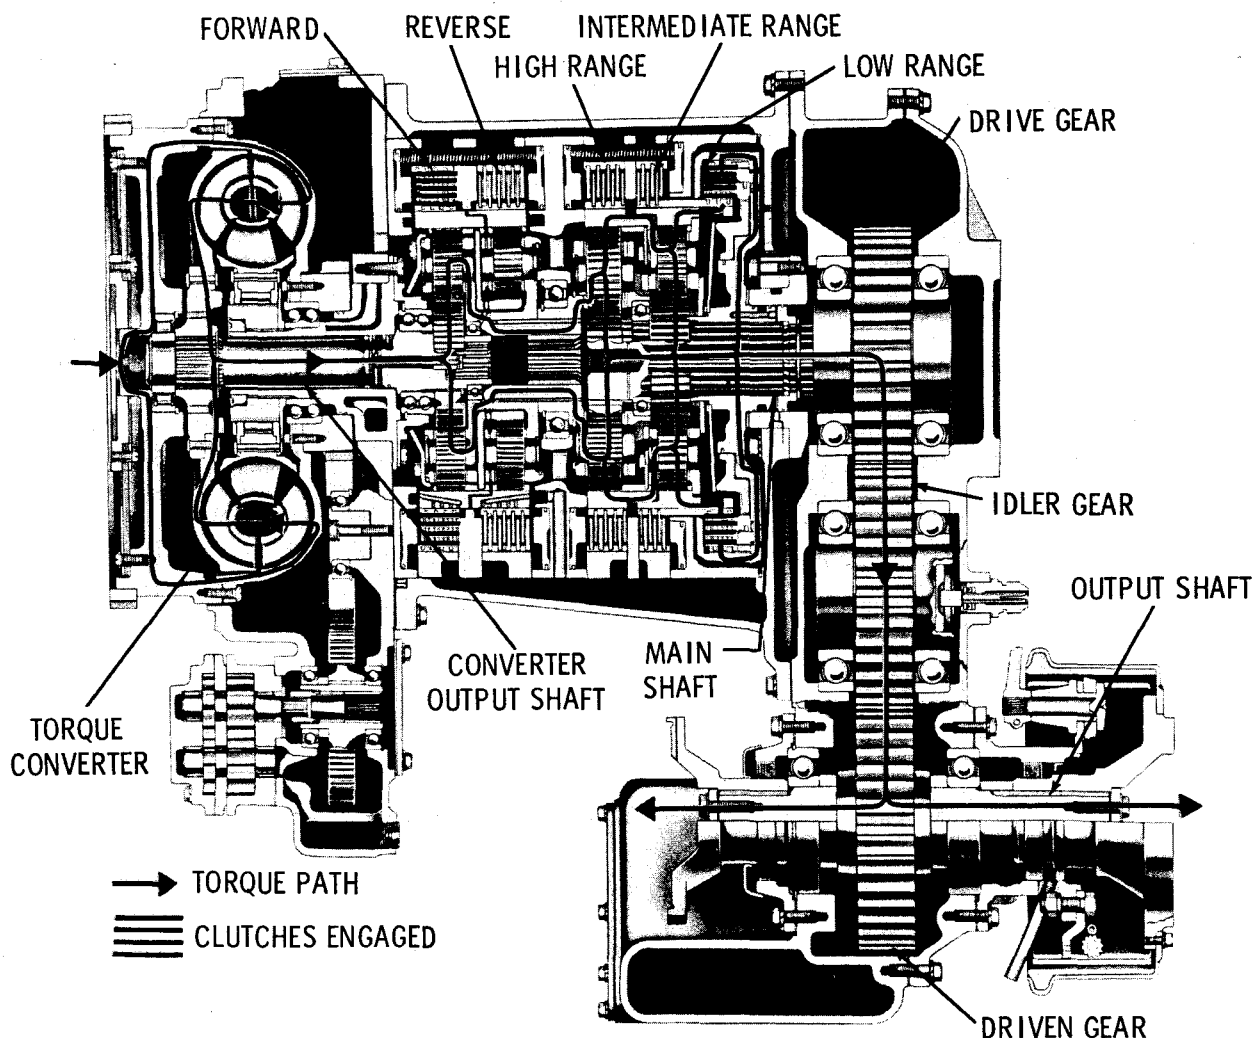

Fig. 2-2. Forward, low range—torque path
c. Forward, Low Range (fig. 2-2)
(1) The forward and low-range clutches are engaged. The forward clutch holds the forward ring gear stationary. The torque converter output shaft drives the forward sun gear. The forward sun gear forces the forward planetary pinions, and carrier, to rotate within the stationary ring gear. The forward planetary carrier is splined to the high-range planetary carrier and drives it in the same direction as the torque converter output shaft.